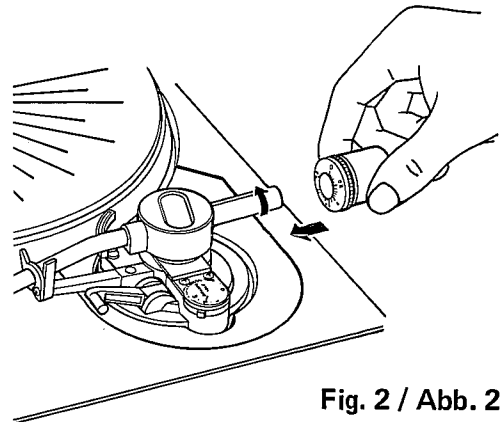

Fig. 2 / Abb. 2 / fig. 2
5. Screw tone arm counterweight onto back end of tone arm, turning clockwise as shown in Fig. 2.